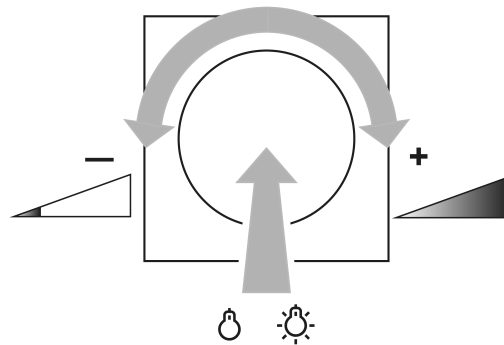

Figure 1: Switching light or adjusting brightness
- Press the setting knob briefly: Light switches on or off (Figure 1).
- Turn the setting knob quickly: Brightness is changed quickly (Figure 1).
- Turn the setting knob slowly: Brightness is changed slowly (Figure 1).